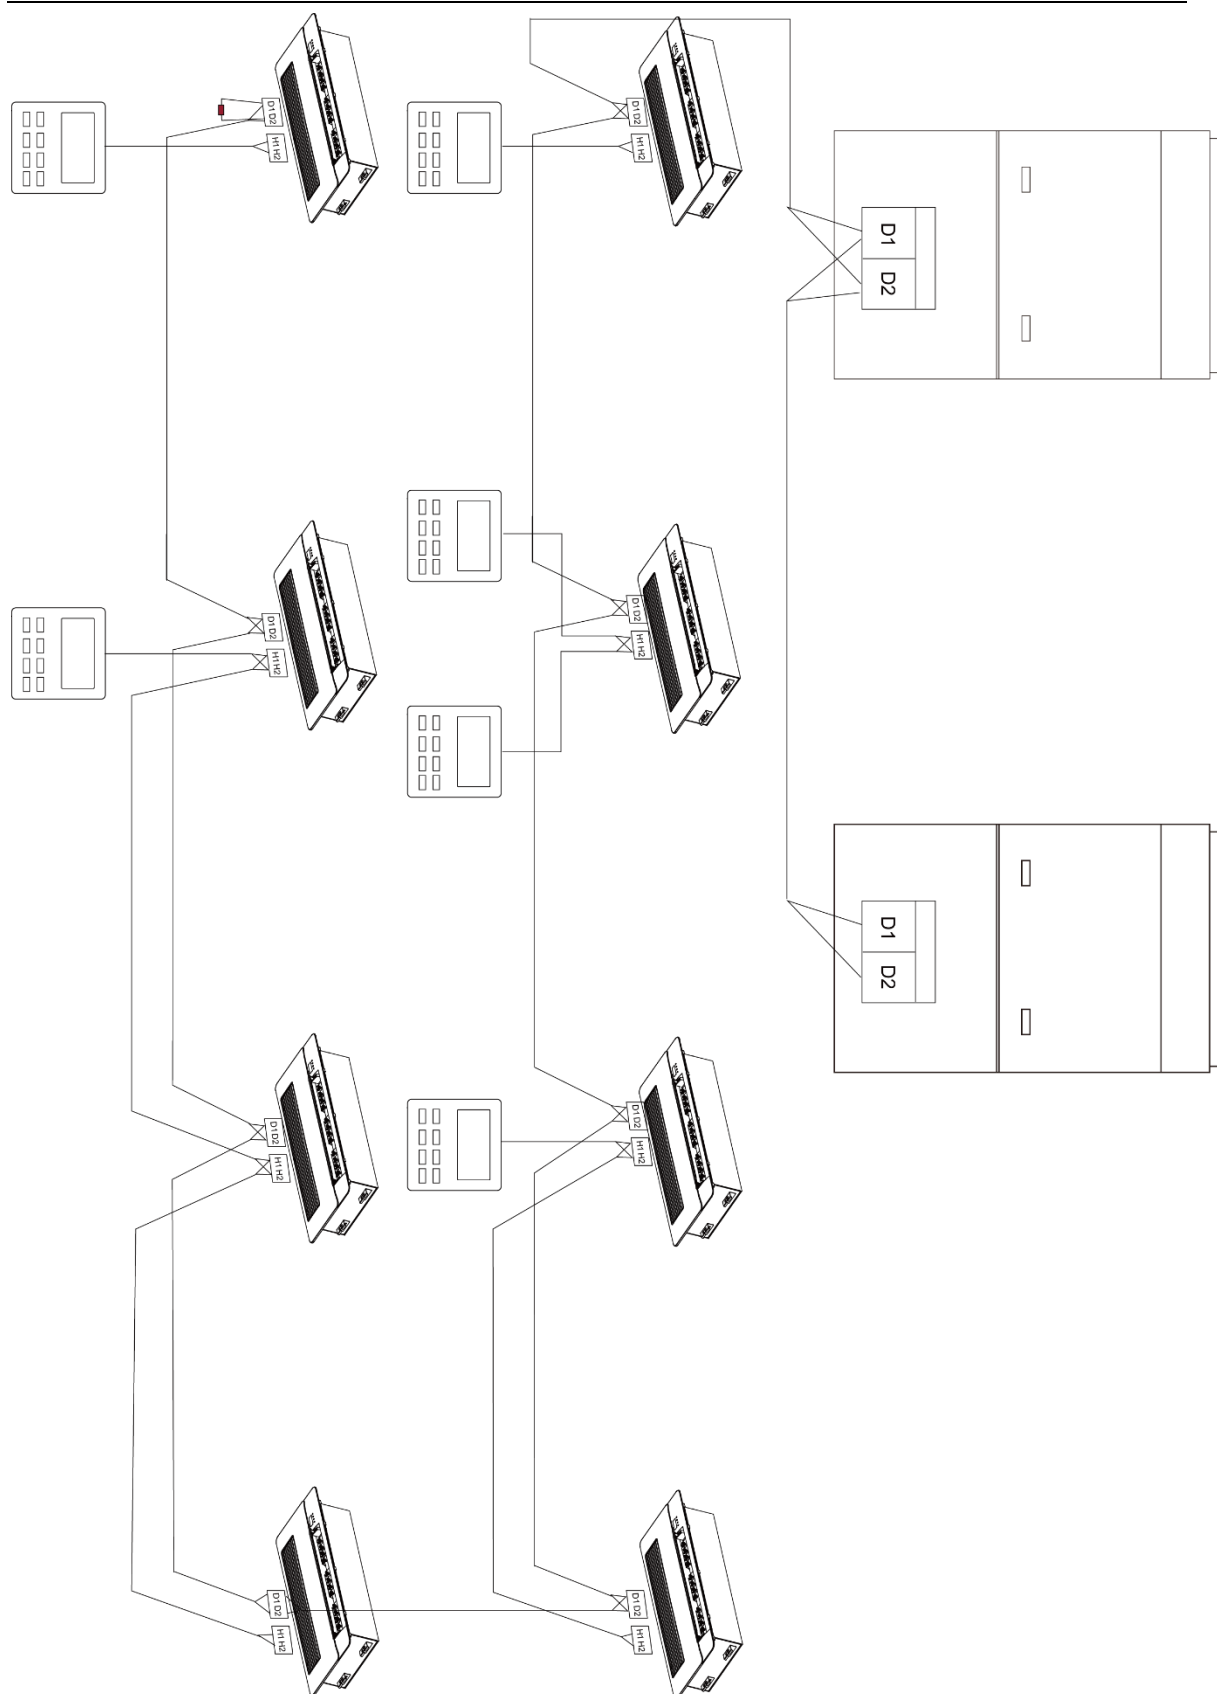

Fig 5.5
- (1) Communication wire of indoor unit and outdoor unit (or indoor unit) is connected to D1, D2.
- (2) Wired controller is connected to H1, H2.
- (3) One indoor unit can connect two wired controllers that must be set as master one and slave one.
- (4) One wired controller can control 16 indoor units in maximum at the same time. (As shown in fig 5.5)